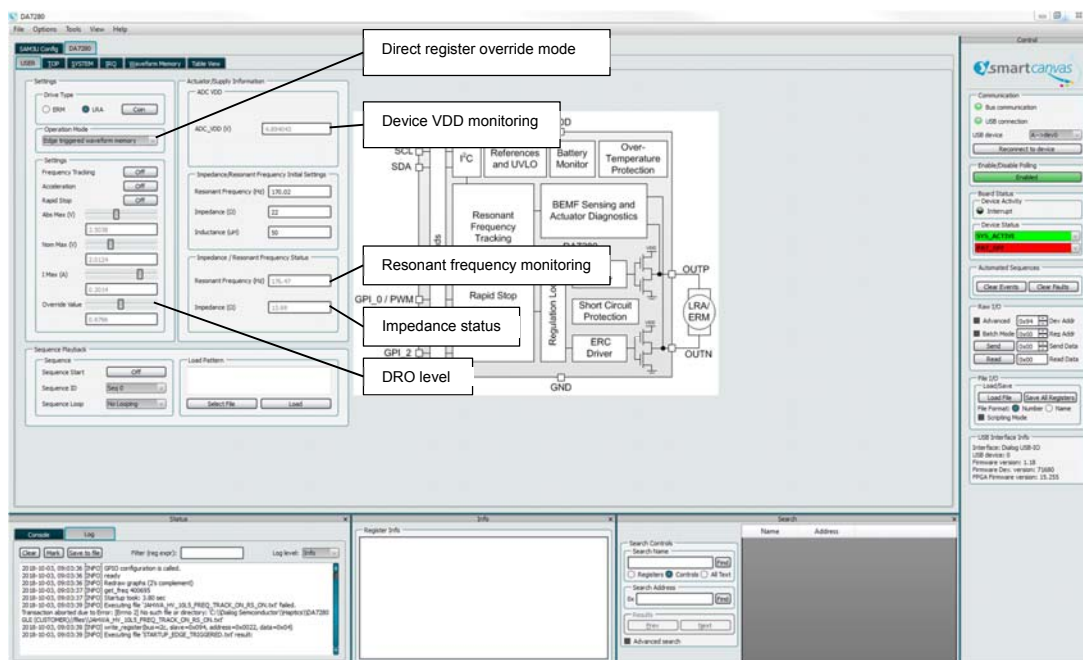

Figure 25: GUI in DRO Mode
1. In **Drive Type**, select **LRA**, see Figure 25.